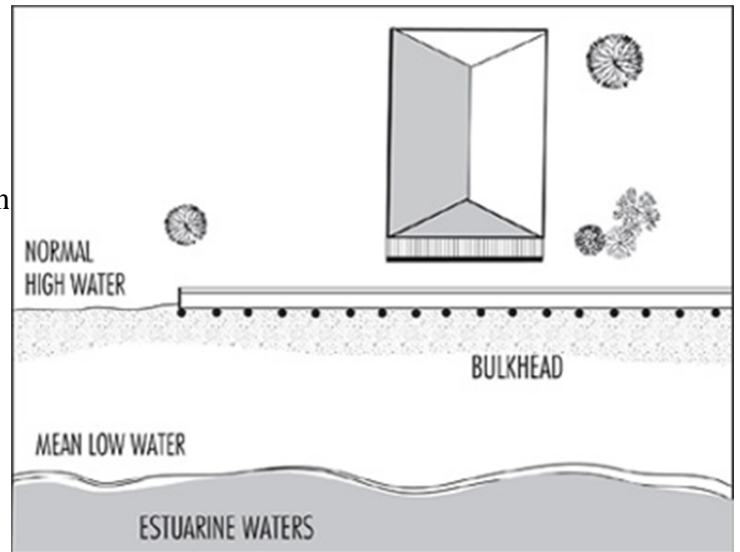

Figure 4.4
- To keep the shoreline stable, shoreline stabilization measures should be aligned with, or landward of, the normal high water or normal water level (see Figure 4.4). The normal water level is the ordinary extent of high tide, based on the location of the apparent high tide line and